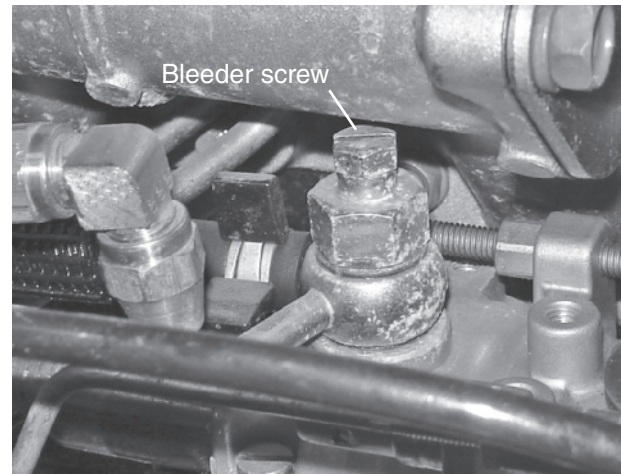

Figure 17-3 A bleeder screw as used on a Thermo King refrigeration unit.
- Next, crack the bleeder screw located on top of the injection pump. Refer to **Figure 17-3**, which shows a bleeder screw as used on a Thermo King refrigeration unit.